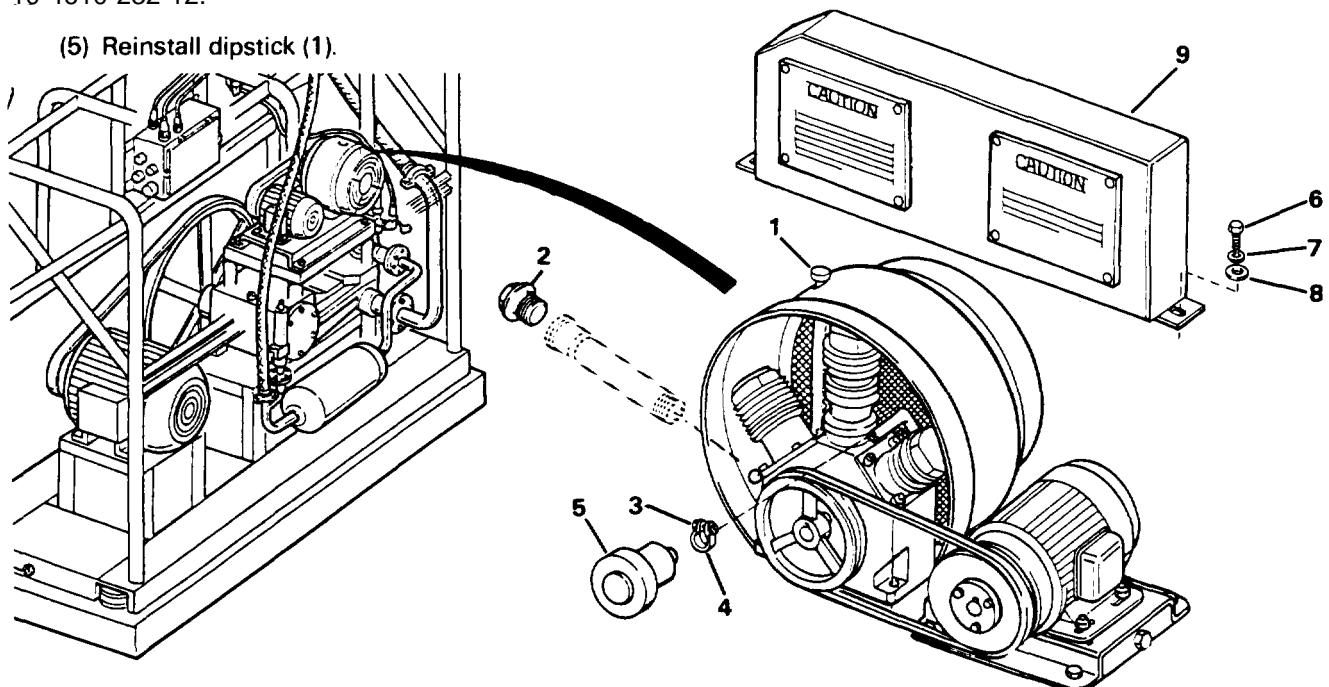
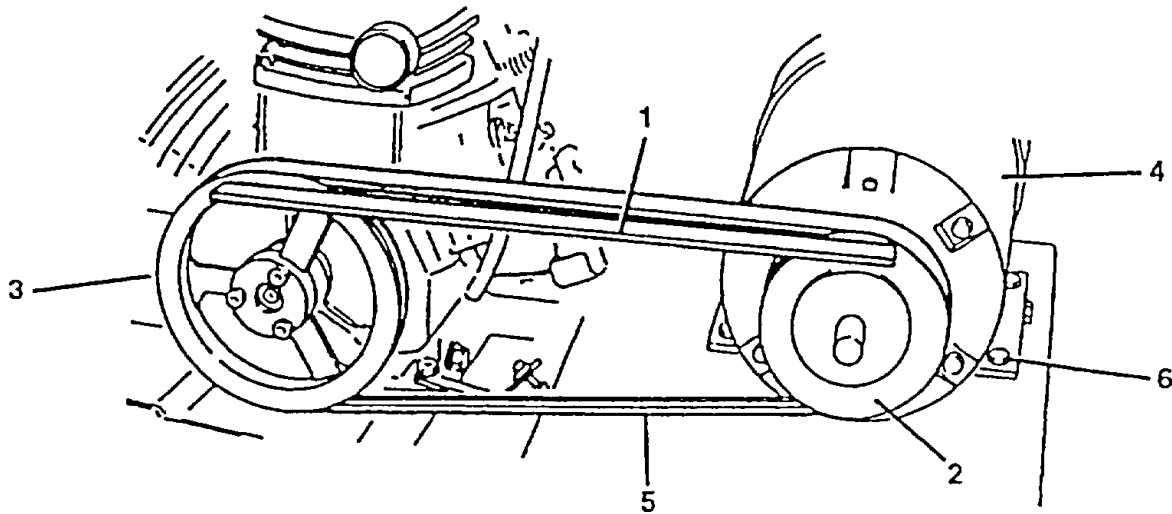

Figure 4-89. Air Compressor Service
Figure 4-92. Air Compressor Sheave Alignment
- b. Loosen screw (3, Figure 4-89) and remove clamp (4) and air cleaner (5).
- c. Remove two capscrews (6), washers (7), lockwashers (8) and guard (9).
a. Refer to Figure 4-89 and change lubricating oil as follows:
(1) Remove dipstick (1).
(2) Place a suitable container beneath oil plug (2) and remove the oil plug. Allow oil to drain into the container.
(3) Replace plug (2).
(4) Using a funnel, refill the air compressor with lubricating oil through dipstick (1) opening. Refer to LO 10-4610-232-12.
(5) Reinstall dipstick (1).
- (1) Refer to Figure 4-89 and loosen screw (3) and remove clamp (4) and fitter assembly (5).
- (2) Remove two capscrews (6), washers (7) and lockwashers (8) and remove belt guard (9).
(11) Refer to Figure 4-92 and check the alignment of sheaves (2 and 3) by placing the straightedge (1) across the faces of the sheaves. If the sheaves are not aligned, move motor (4) to bring the sheaves into proper alignment.
(12) Recheck belt (5) tension as described above. Then tighten four nuts (6).
(13) Install belt guard (9, Figure 4-89) and secure with two capscrews (6), lockwashers (7) and washers (8). Install air filter (5), clamp (4), and secure with screw (3).\
(14) Return the straightedge to the high-pressure pump belt guard